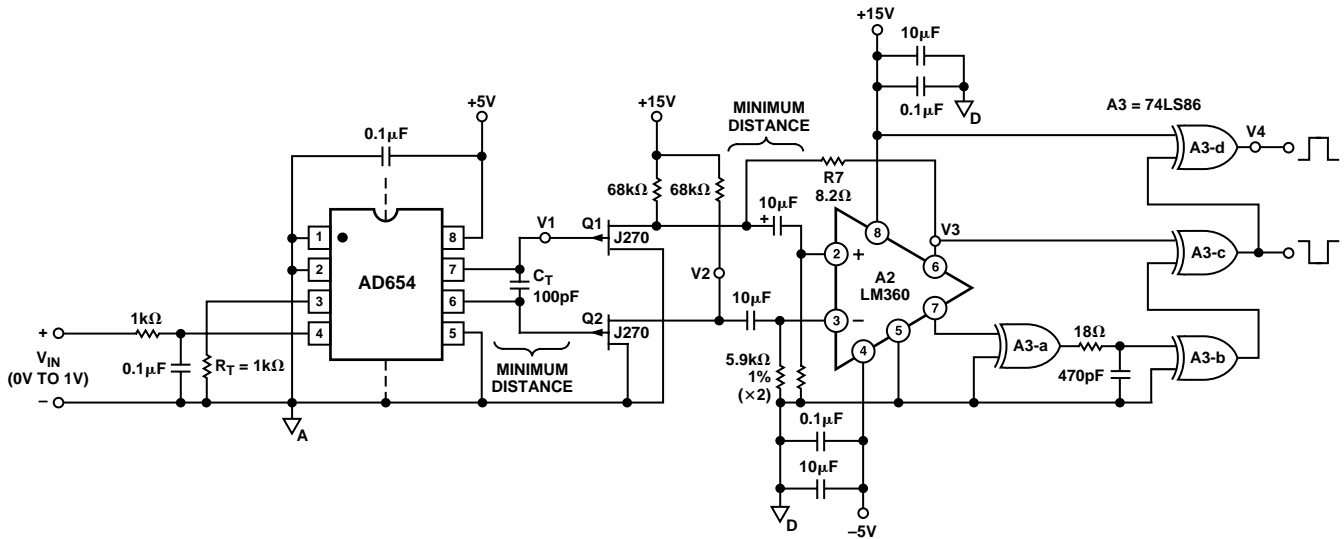

Figure 13. 2 MHz, Frequency Doubling V/F
Figure 13 illustrates this with a circuit offering 2 MHz full scale. In this circuit the AD654 is operated at a full scale (FS) of 1 mA, with a  $C_T$  of 100 pF. This achieves a basic device FS frequency of 1 MHz across  $C_T$ . The P channel JFETs, Q1 and Q2, buffer the differential timing capacitor waveforms to a low impedance level where the push-pull signal is then ac coupled to the high speed comparator A2. Hysteresis is used, via R7, for nonambiguous switching and to eliminate the oscillations which would otherwise occur at low frequencies.
The net result of this is a very high speed circuit which does not compromise the AD654 dynamic range. This is a result of the FET buffers typically having only a few pA of bias current. The high end dynamic range is limited, however, by parasitic package and layout capacitances in shunt with  $C_T$ , as well as those from each node to ac ground. Minimizing the lead length between A2-6/A2-7 and Q1/Q2 in PC layout will help. A ground plane will also help stability. Figure 14 shows the waveforms V1-V4 found at the respective points shown in Figure 13.